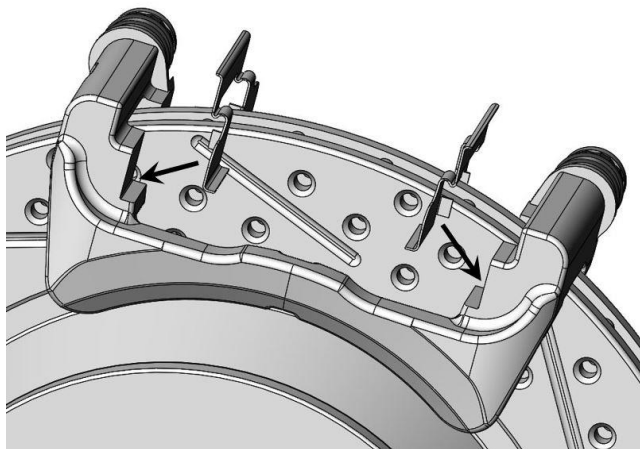
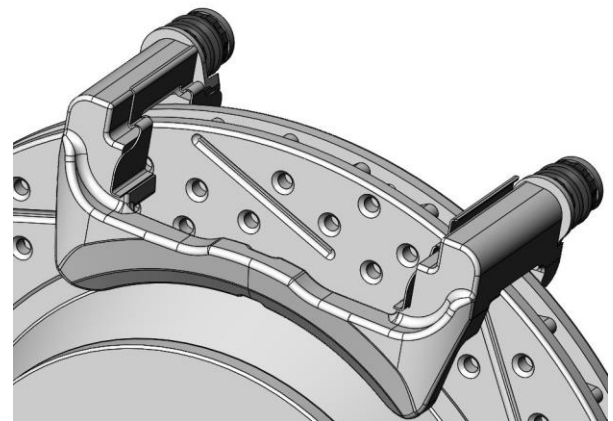

Figure 7a – Abutment Clips Installation
Figure 7b – Abutment Clips Installed
11. Place the Stainless Steel Abutment Clips into the Caliper Anchor Bracket at this time. Refer to Figure 7a and Figure 7b Below for installation reference.